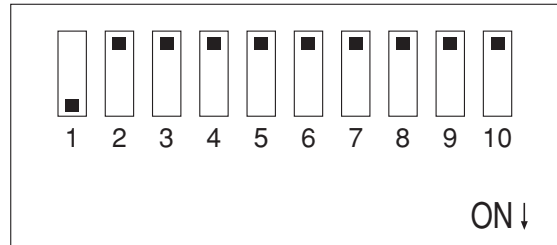

Fig.6 The Status of Dial-up (SW)
The example for the status of dial-up (SW) is shown in Fig.6. If ID address is 1, the output mode is impulse, communication mode is 10 bits: 1 start bit, 8 data bits, 1 stop bit and baud rate is 9600bps.